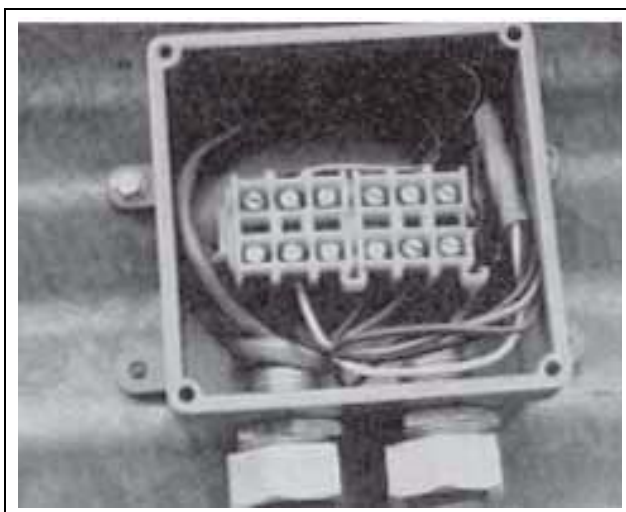

Figure 16l
11. Measure and cut the 1/2" conduit needed to reach from the 4 x 4 junction box to the Calc-U-Dri control box, leaving enough for a drip loop under the box. Cut the five-strand sensor wire about 3' LONGER than the conduit. Feed the sensor wire through the conduit and connect the liquid tite to the two (2) boxes using the connectors provided.
12. Connect the Calc-U-Dri sensor wires in the 4 x 4 junction box to the top of the terminal strip. The leads from the sensor flag go to the top of the terminal block. BE CAREFUL to match the color coded wires to each other, red to red, etc. (See Figure 16l.) Then attach the junction box lid. This completes the Calc-U-Dri sensor mounting for units with vertical discharge auger tubes. Go to Step 14.